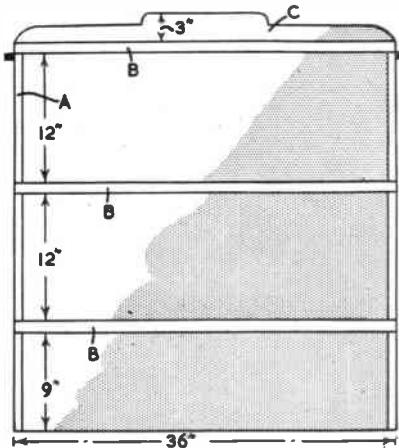

Fig. 1
Fig. 1 shows the main measurements. Note that the racks are spaced to give a clearance of 12 in. The back (C) is a piece of $\frac{1}{2}$ in. hardboard 3 ft. by 3 ft. 3 in., and is shaped at the top to improve the appearance. The sides (A) are cut from $\frac{3}{4}$ in. wood, and the rails (B) are pieces of 1 in. square stripwood 36 in. long.